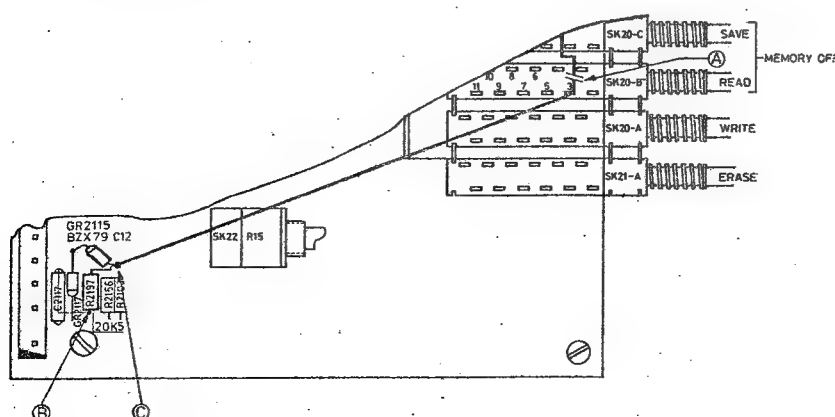

Fig. 1. Part of variable persistence and storage unit.
2. Interrupt the track (on the track-side of the p.w.b.) between point 3 of SK20B (READ) and the anode of GR2117 as indicated in fig. 1 (A).
4. Solder one side of a resistor of 20k Ω (5322 116 55255) on the point, which is connected with C2117 as indicated in fig. 1 (B) (on the component side of the p.w.b.).
5. Solder between the resistor of 20k Ω and the anode of the zenerdiode GR2115 a zenerdiode (GR2115) BZX 79 C12 (4822 130 34197). The cathode of GR2115 to the anode of GR2117 (see fig. 1).
6. Mount an interconnection wire between the anode of GR2115 (fig. 1 (C)) and point 3 of the switch SK20B (READ).